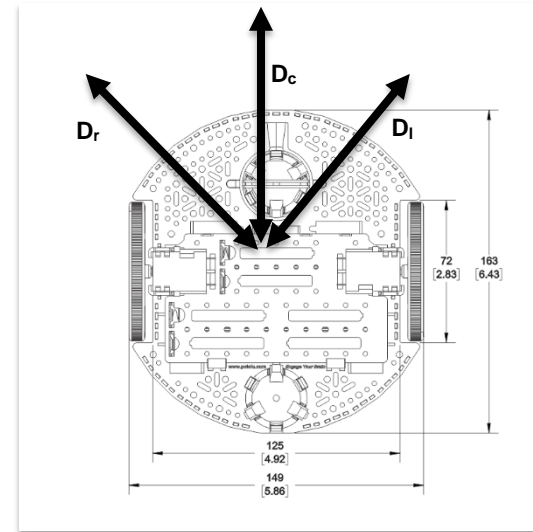

Figure 1. Define distance measured from a central point on the robot.
- If your robot does not have a tachometer to measure speed you could still perform this lab. For example if you have the IR distance sensors, then you could specify the desire to roll down the middle of the road. Assume the left and right IR sensors are measuring distance to the left and right walls, see Figure 1. For this controller we define error as the difference between distance to left and right. $Error = D_l - D_r$. Set the duty cycle of one wheel to a constant, and have the output of the controller determine the duty cycle of the other wheel.